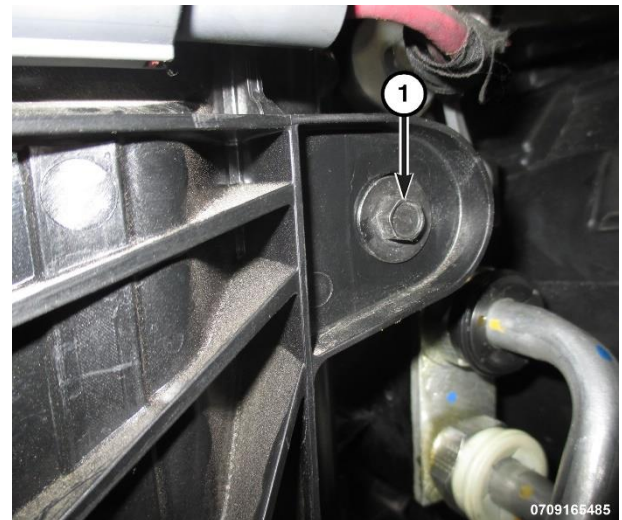

Figure 179 – Right Cooling Fan Bolt
9. Remove the right cooling fan bolt (1) (Figure 179).